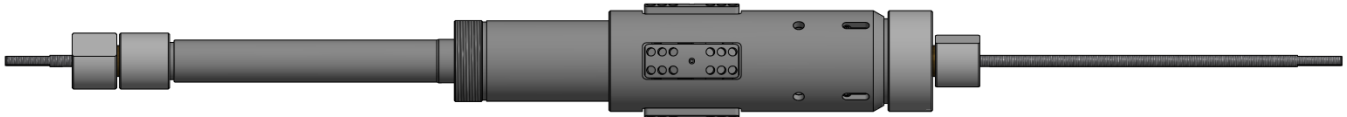

Fig. 6
K-1.5.8) Tighten threaded lug (T1-4) to pull collet fingers on ratchet mandrel (6) through upper and lower cones (Fig. 6). Remove wedges from slips.